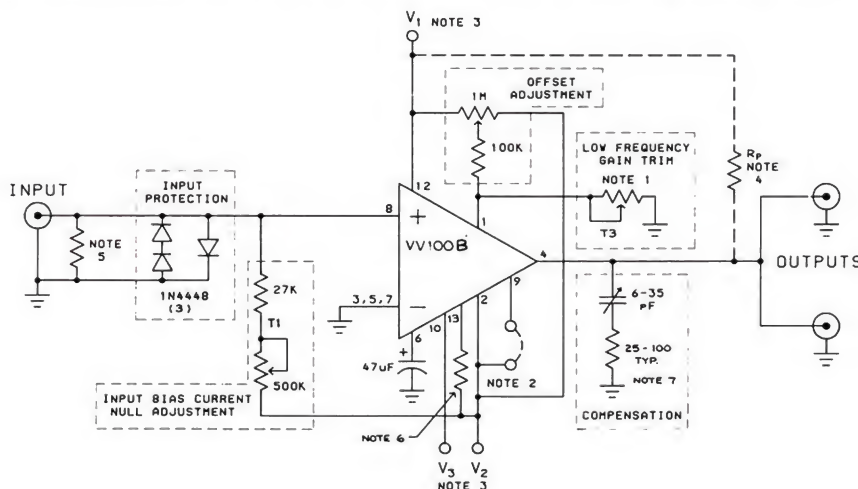

Figure 1
6. See Figure 1.
Figure 1 shows a typical application circuit for the VV100B and is the circuit on the LeCroy VV100BTB amplifier. Here input trim T1 is accomplished by the series combination of a 27 k Ω resistor and a 500 k Ω potentiometer. Trim T2 is set by the 1 M Ω potentiometer and series 100 k Ω fixed resistor. A fixed resistor to ground sets the low frequency gain trim (T3). High frequency compensation is set by the 51 Ω , 6-35 pF combination.
Proper termination and protection must be supplied to the input. In most cases, input to the amplifier will be via 50 Ω cable. In this case, a 50 Ω resistor from the input (pin 8) to ground should be employed. In addition, three 1N4448 or equivalent diodes to ground as shown in Figure 1 will provide overload protection. The input DC level must be trimmed to zero by a trim resistor (T1) to a negative supply. Where the best DC stability is required, this supply should be regulated. Note that fluctuations in the input offset will appear at the output amplified 10 fold.
A current of about 30 mA from +6 V must be supplied at pin 12. In addition, two negative supplies, V_2 and V_3 , are recommended. V_2 (pin 2) requirement is 20 mA at a voltage between -6 and -12. V_3 (pin 10) is to be set 12 V more negative than V_2 . For example, with V_2 set to -12 V, V_3 should be -24 V. The VV100B requires about 8 mA from the V_3 supply. Proper bypass requires at least 6.8 μ F tantalum capacitors to ground from pins 2, 12, (and 10 if three voltages are used) and 47 μ F on pin 6. Minimum length leads should be employed. Be sure to observe proper polarity. See Figure 1. Model VV100B can be operated with only two proper power supplies at the expense of risetime and linearity. For this configuration, tie pin 2 to pin 9, set $V_2 = -6$ V to -12 V, V_3 is omitted and $V_1 = +6$ V.